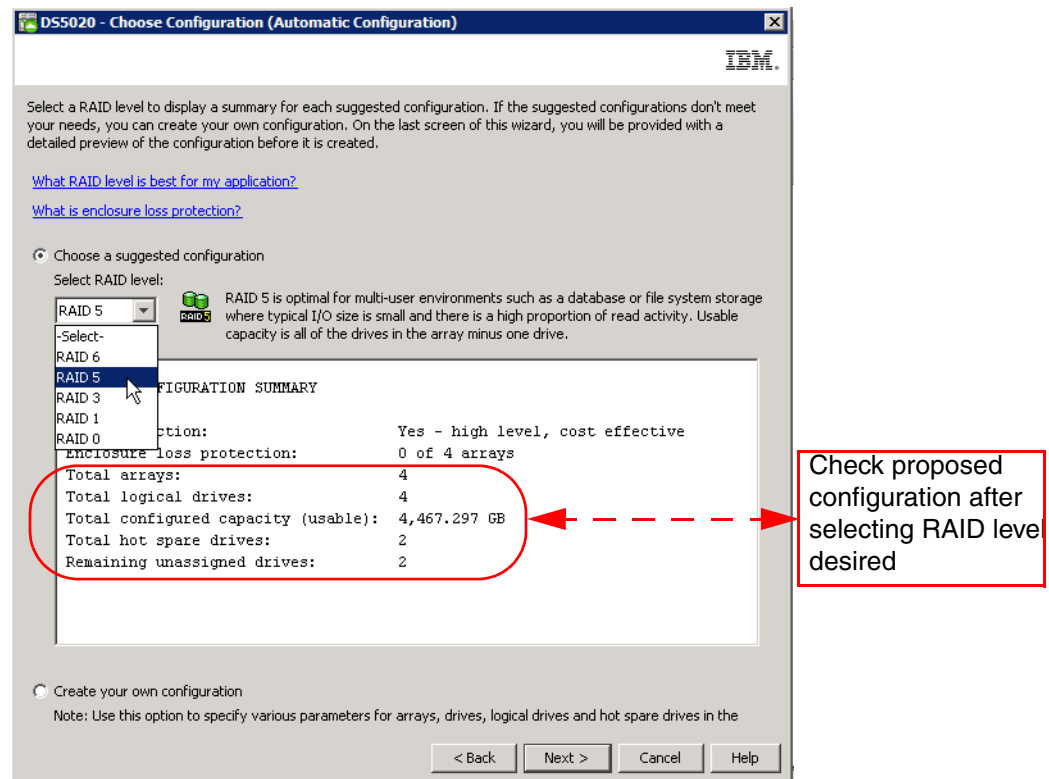

Figure 4-44 Choosing the RAID level
3. In the window that follows, choose between **Choose a suggested configuration**, selecting the RAID level desired, or **Create your own configuration**, as shown in Figure 4-44.